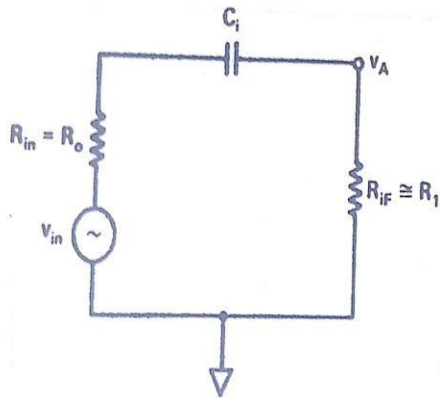

Figure C-1 Input circuit for the ac inverting amplifier of Figure 7-3(a).
- The input circuit of AC inverting amplifier of Figure 7-3a is drawn in figure C-1.